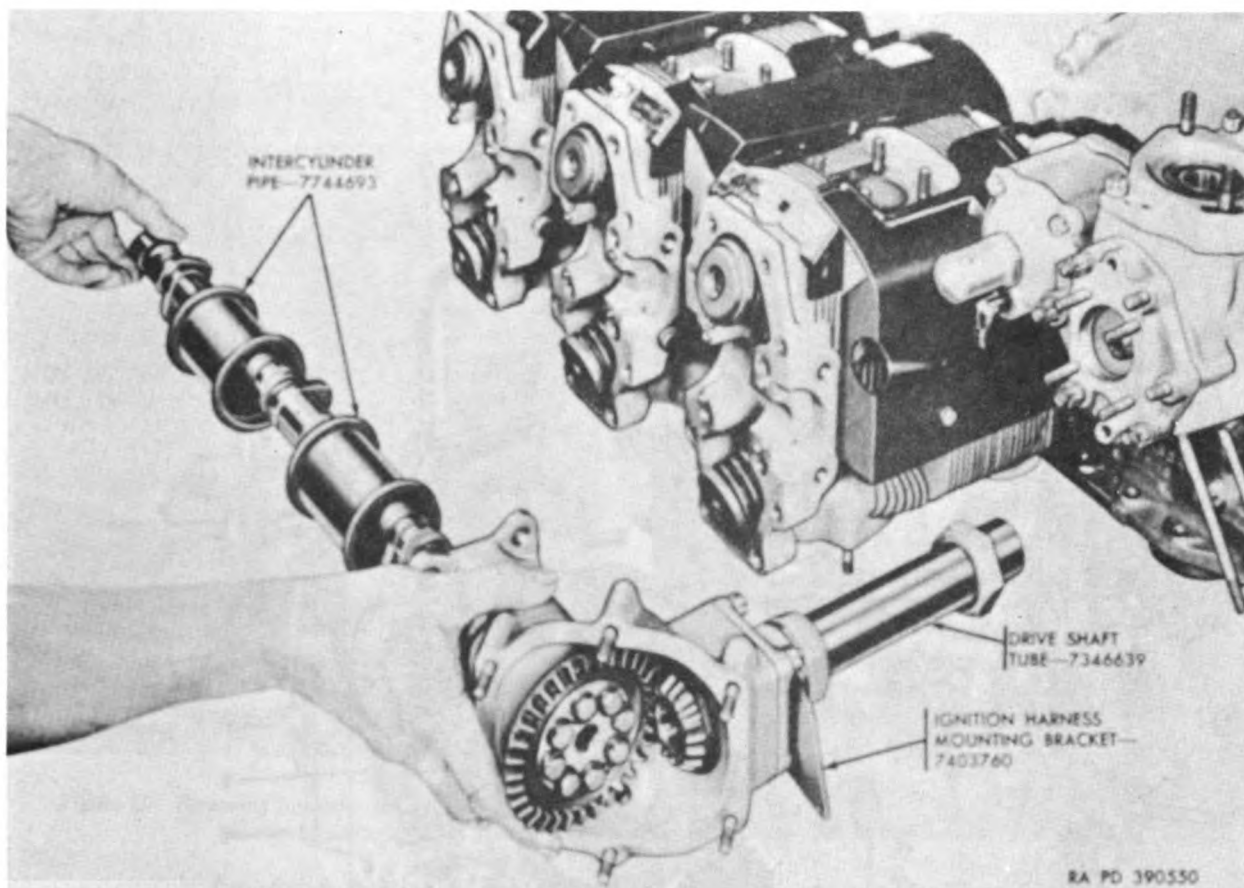

Figure 46. Removing or installing left camshaft and camshaft gear housing.
- (6) Straighten tab washers and remove two hex-head bolts and tab washers securing camshaft gear housing to No. 2 cylinder head.
- (7) Remove left camshaft and gear housing as a unit, with attached ignition harness mounting bracket, as shown in figure 46.
- (8) To prevent loss, damage, or interchanging, install valve rocker assemblies, valve rocker shaft supporting brackets, and camshaft bearing caps